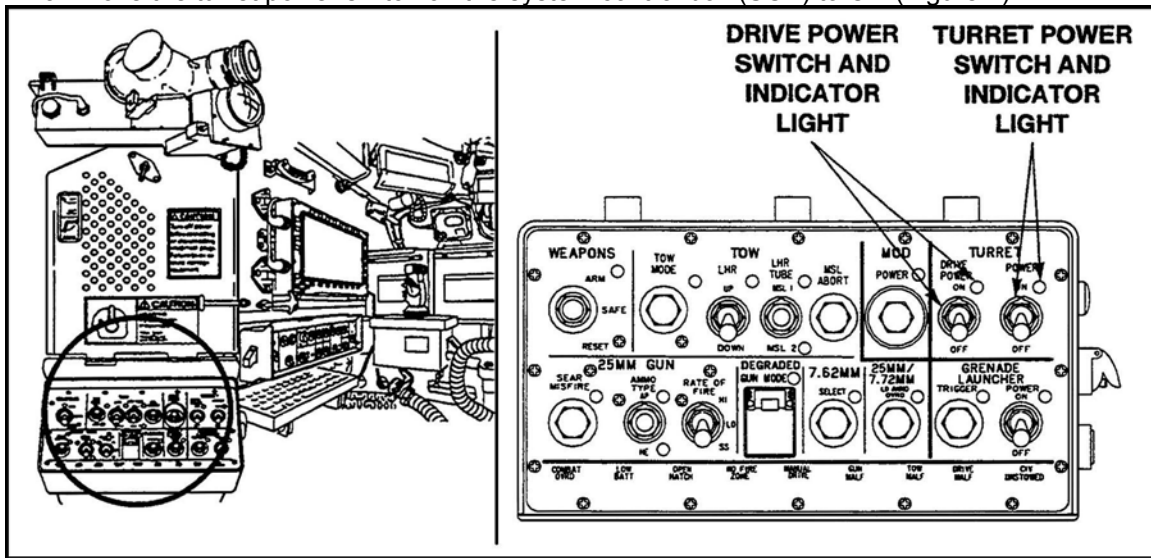

Figure 1. Turret power and turret drive switches.
- a. Move the turret power switch on the system control box (SCB) to ON (Figure 1).